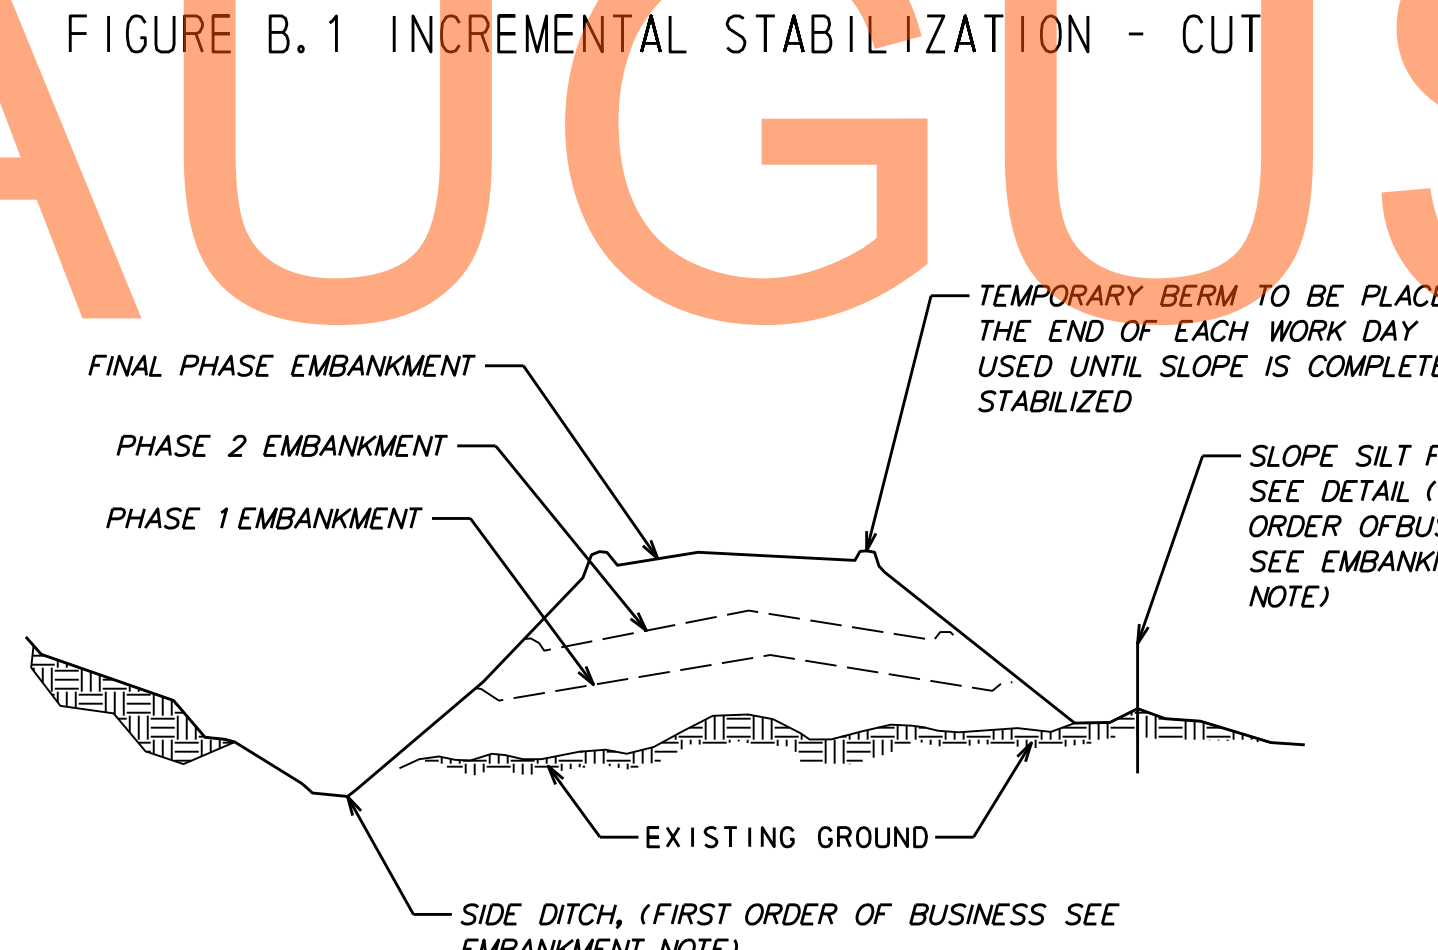

FIGURE B.1 INCREMENTAL STABILIZATION - CUT
2. CONSTRUCTION SEQUENCE EXAMPLE (REFER TO FIGURE B.1):